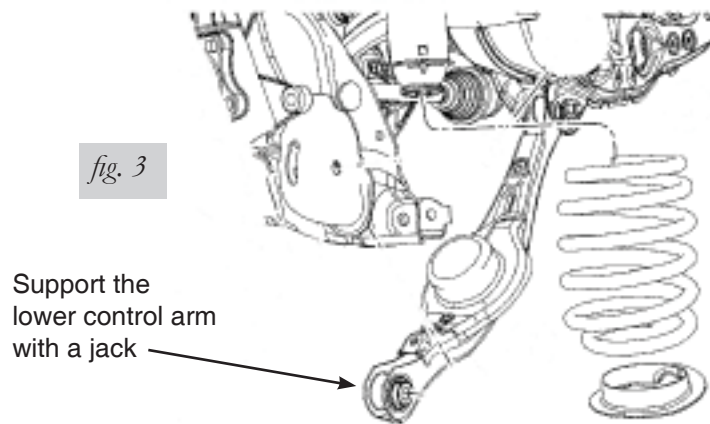

fig. 3
7. Support the lower control arm with a jack or jack stand (fig. 3).